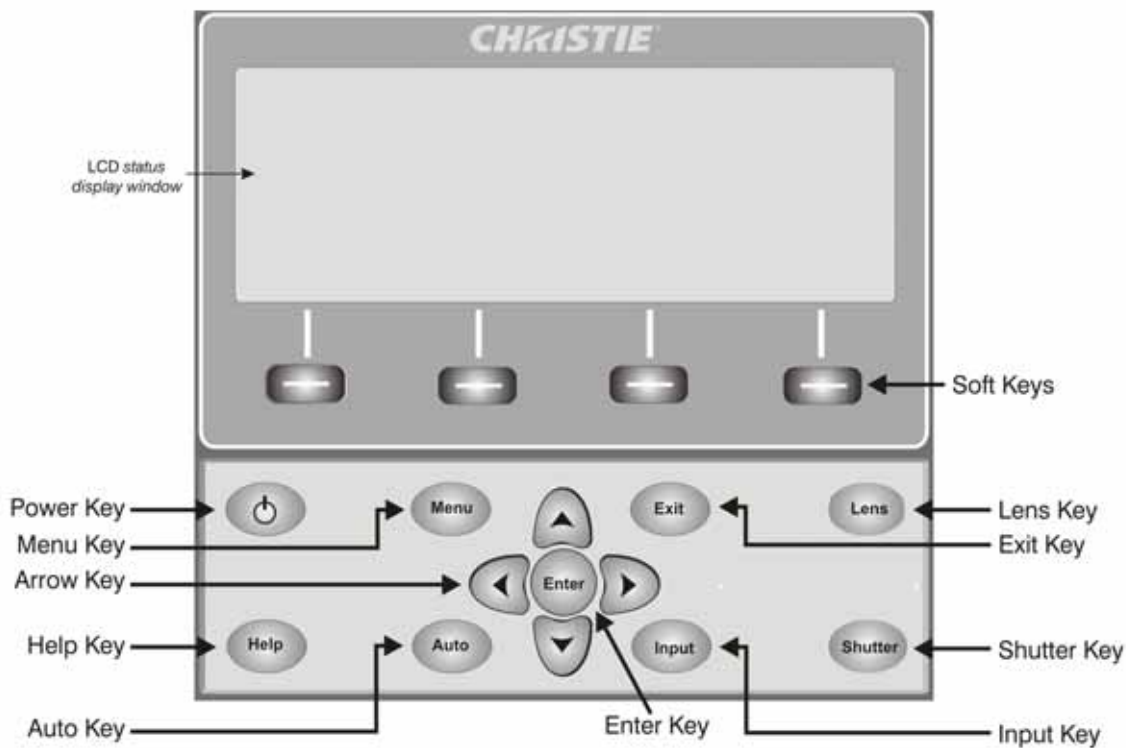

FIGURE 3-2 BUILT-IN KEYPAD
- **Built-in Keypad:** Located at the side of the projector, see **Figure 3-2 Built-In Keypad**.